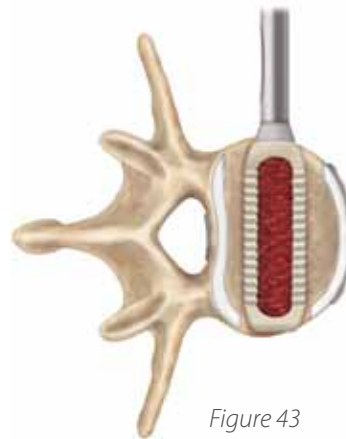

Figure 43
Step 4 After the implant is positioned in the center of the disc space from a medial/lateral perspective, the Inserter is unthreaded from the implant and removed (**Figures 43 and 44**).